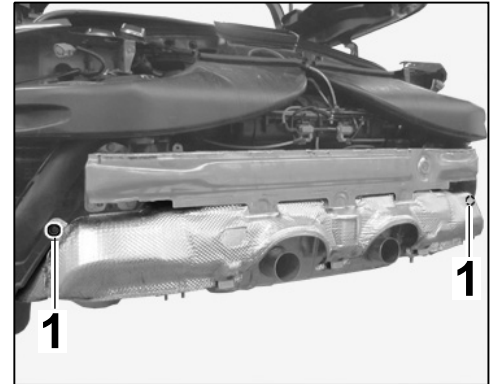

Figure 36
- 8.6.3 Tighten screws ⇒ *Figure 36 -1-* on the heat shield.